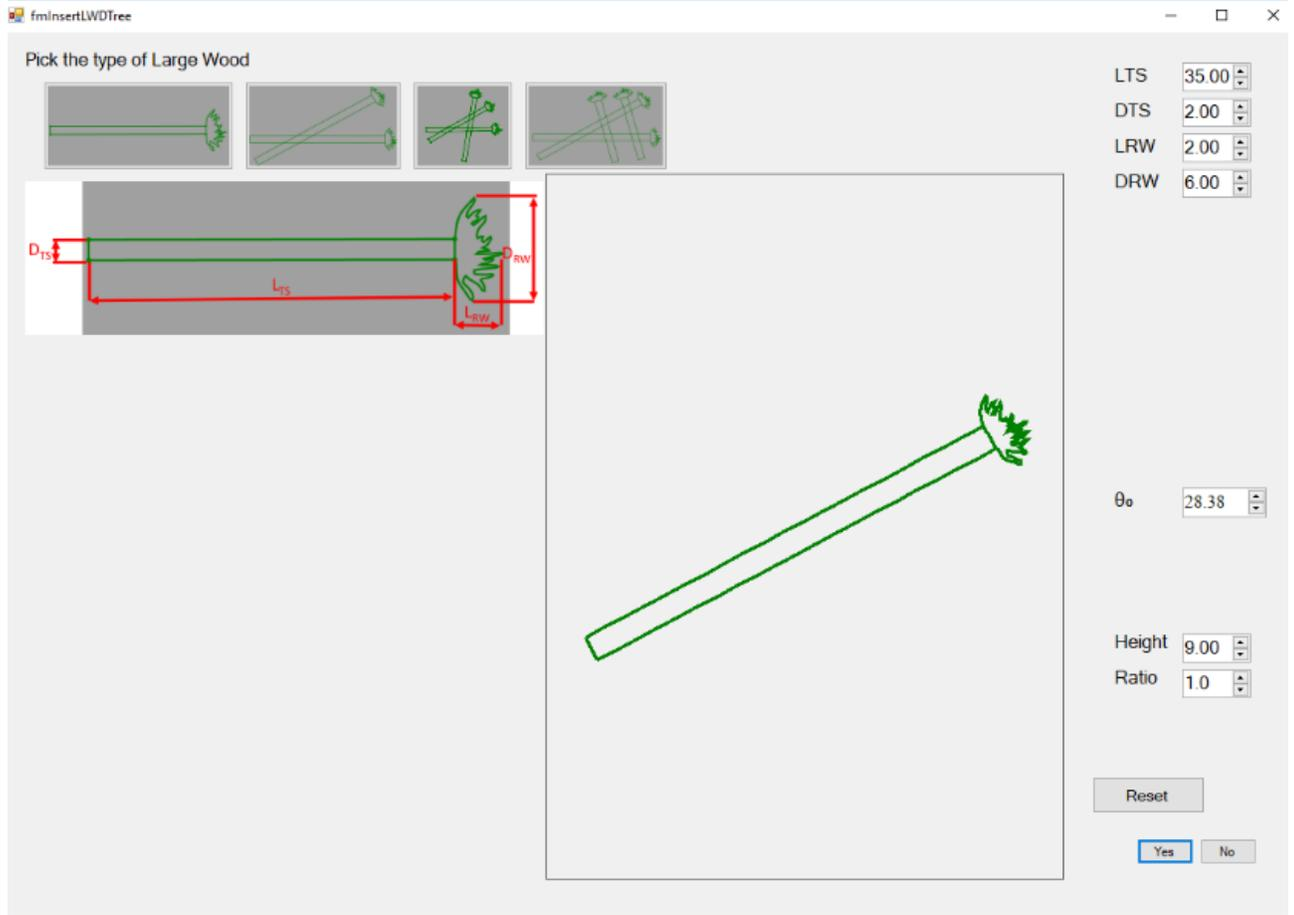

Figure 3-17. Form to select the type of large wood structure and set the structure's dimensions.
SRH-Mesh enables you to add four types of more complex pre-defined large wood structures (Figure 3-17).
2. Click a point in the workspace where you want to insert the beginning of the structure, hold and drag to a new point where you want to insert the end of the structure. The direction from the first to second point represents the orientation of the large wood structure. The middle point of your mouse “hold and drag” represents the center of the large wood structure. A form will appear (Figure 3-17).